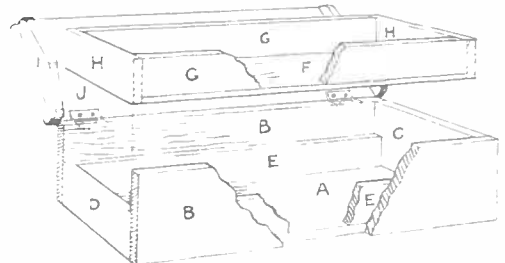

Fig. 2 Cut-away constructional detail
Allow the glue to harden, and then make the two runners (E). These are 7 3/8 ins. long by 3/8 in. wide, by 3/16 in. thick. See that the long edges are flat and even after cutting them—our glasspaper board comes in well again for this job. Wipe one side and one edge of the two runners with glue and press them down inside the box as shown in Fig. 2. In this diagram, parts of the sides, etc. have been shown cut away to make construction clear.